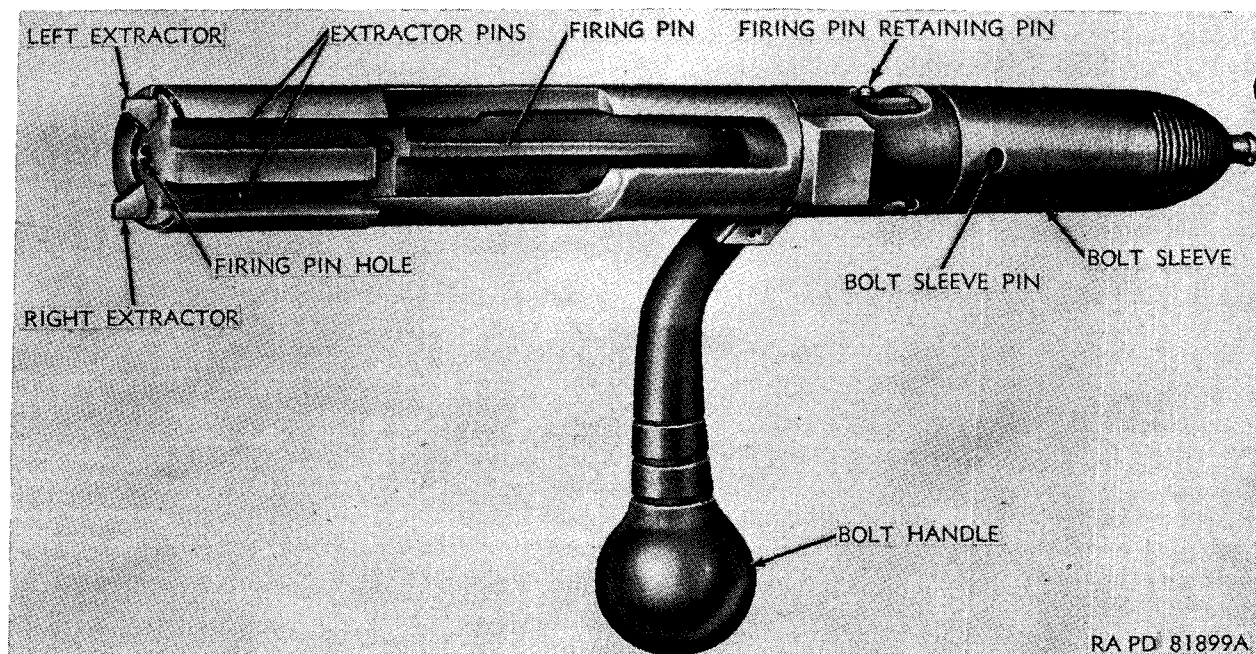
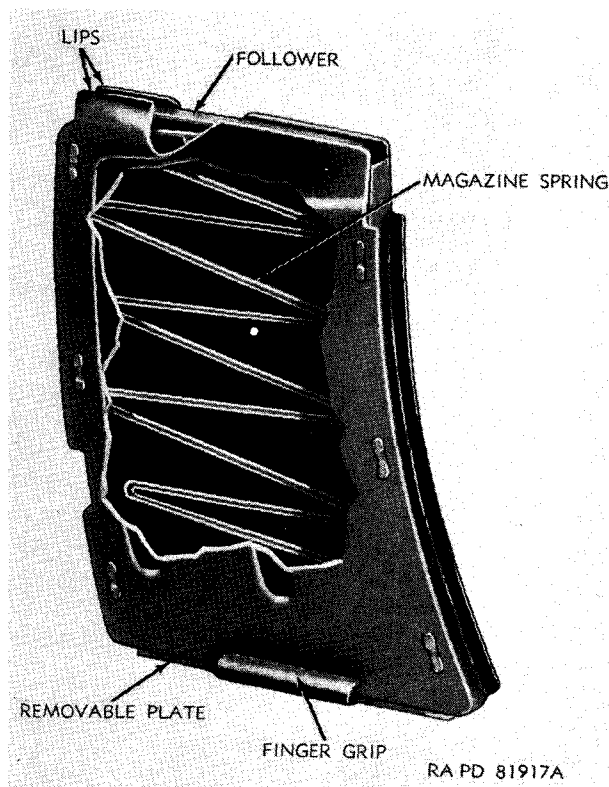

Figure 5. Bolt group (Remington rifle M513T)
Figure 6. Magazine assembly (Remington rifle M513T).
- (1) *Bolt group* (fig. 5). The extractors are mounted on each side of the forward end of the bolt in two machined slots. They are retained there by two extractor pins passing through their centers and are operated by one extractor spring passing vertically through the bolt and pushing the rear of each extractor outward and forcing their front ends inward. The bolt (E) and firing pin (Y) are pinned together by the firing pin retaining pin but the firing pin retaining pin hole in the bolt is elongated to permit the firing pin to move back and forth inside the bolt.
(2) *Magazine assembly* (fig. 6). The magazine assembly is located below the front end of the bolt (E) and forward of the trigger (L) and sear (W) in the receiver and is retained in place by the magazine lock (GG). The magazine is of sheet metal construction. Magazine spring (EE) and follower (BB) push the cartridges to the top of the magazine, where the bolt face and extractors (fig. 5) remove them when needed. The magazine has lips at the top where the cartridge is held prior to feeding and has a removable